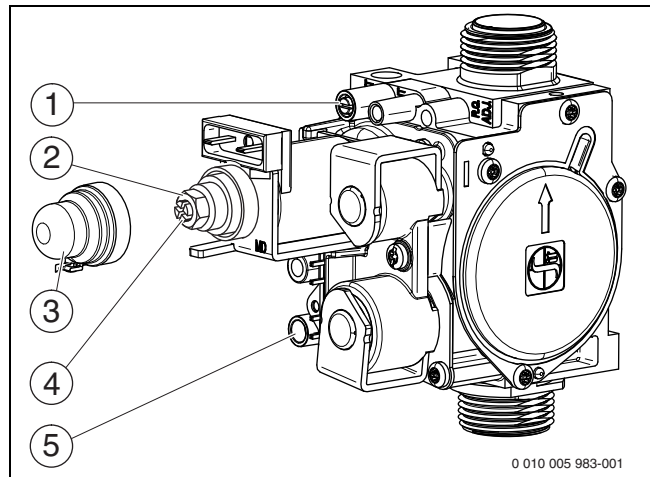

Fig. 28 Gas valve
- ▶ Loosen the sealing screw at the test nipple for the burner pressure ( Fig. 28, [1]) and connect the U-tube pressure gauge.
- ▶ Remove the cover ( Fig. 28, [3]).
- ▶ For “max.” specified burner pressure (mbar), see table on page 42. Use the setting screw to set the burner pressure for the max. gas volume ( Fig. 28, [2]). Turn clockwise = more gas; turn anti-clockwise = less gas.
- ▶ For “min.” specified burner pressure (mbar), see table on page 42. Use the adjusting screw to set the burner pressure for min. gas volume ( Fig. 28, [4]).
- ▶ Switch off the wall mounted conventional gas boiler, close the gas valve, remove the U-tube pressure gauge and tighten the sealing screw (Fig. 28, [1]).
- ▶ Release the sealing screw at the test nipple for the gas supply pressure ( Fig. 28, [5]) and connect the pressure gauge.
- ▶ Reattach the cover and seal it ( Fig. 28, [3]).
- ▶ Remove plug from flue gas test port (→ Fig. 28, [1]).